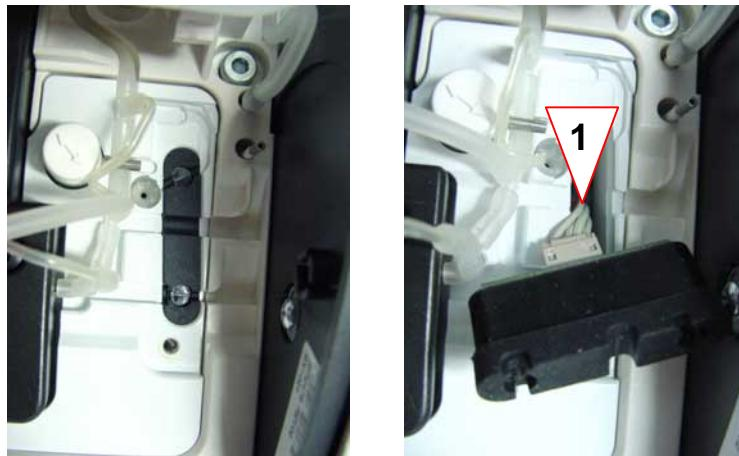

Fig. 3-21 Sample sensor board
8. Push the tube connections to the side and take out the sample sensor board (see Fig. 3-21).
9. Pull off the cable from the sample sensor board (see Fig. 3-21, 1).